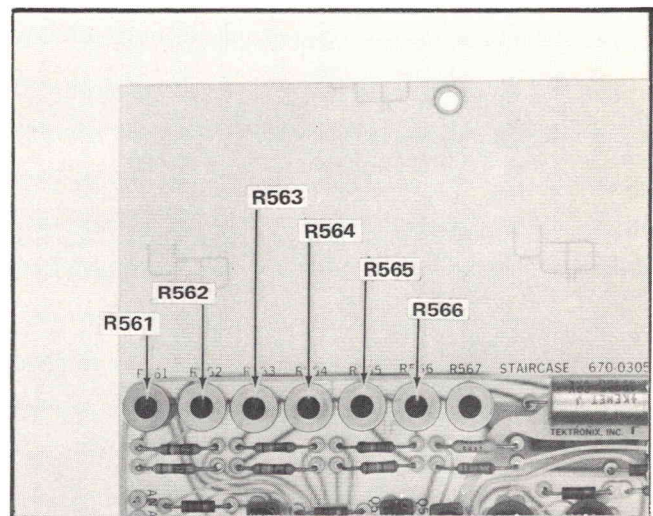

Fig. 5-37. Staircase board adjustment locations.
ad. ADJUST—R562 (see Fig. 5-37) until the first step aligns with the blanking level as shown in Fig. 5-38A.
m. ADJUST—R561 (see Fig. 5-37) until the top of the bottom display meets the bottom of the top display.